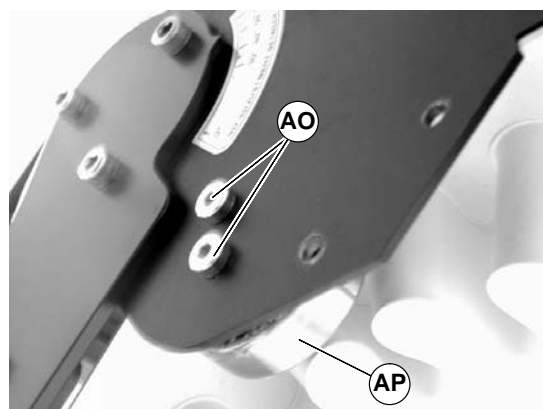

Figure 26
7. Remove screws (AO of Figure 26) and remove roller bearing (AP).